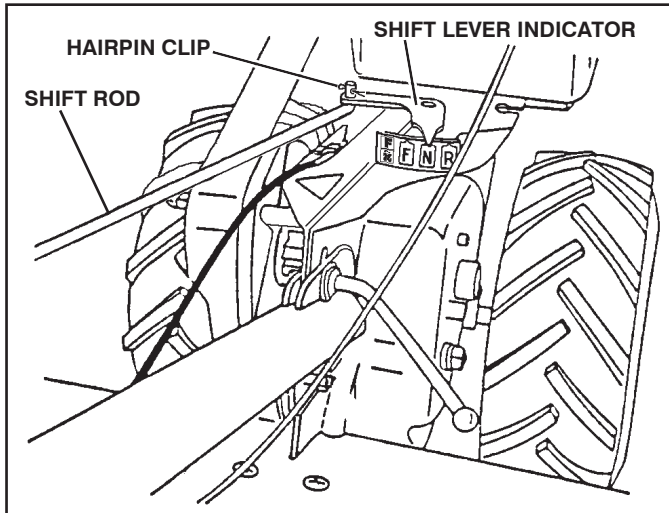

Fig. 7
## CONNECT SHIFT ROD (See Fig. 7)
- Make sure shift lever indicator is in “N” position (See Fig. 7)